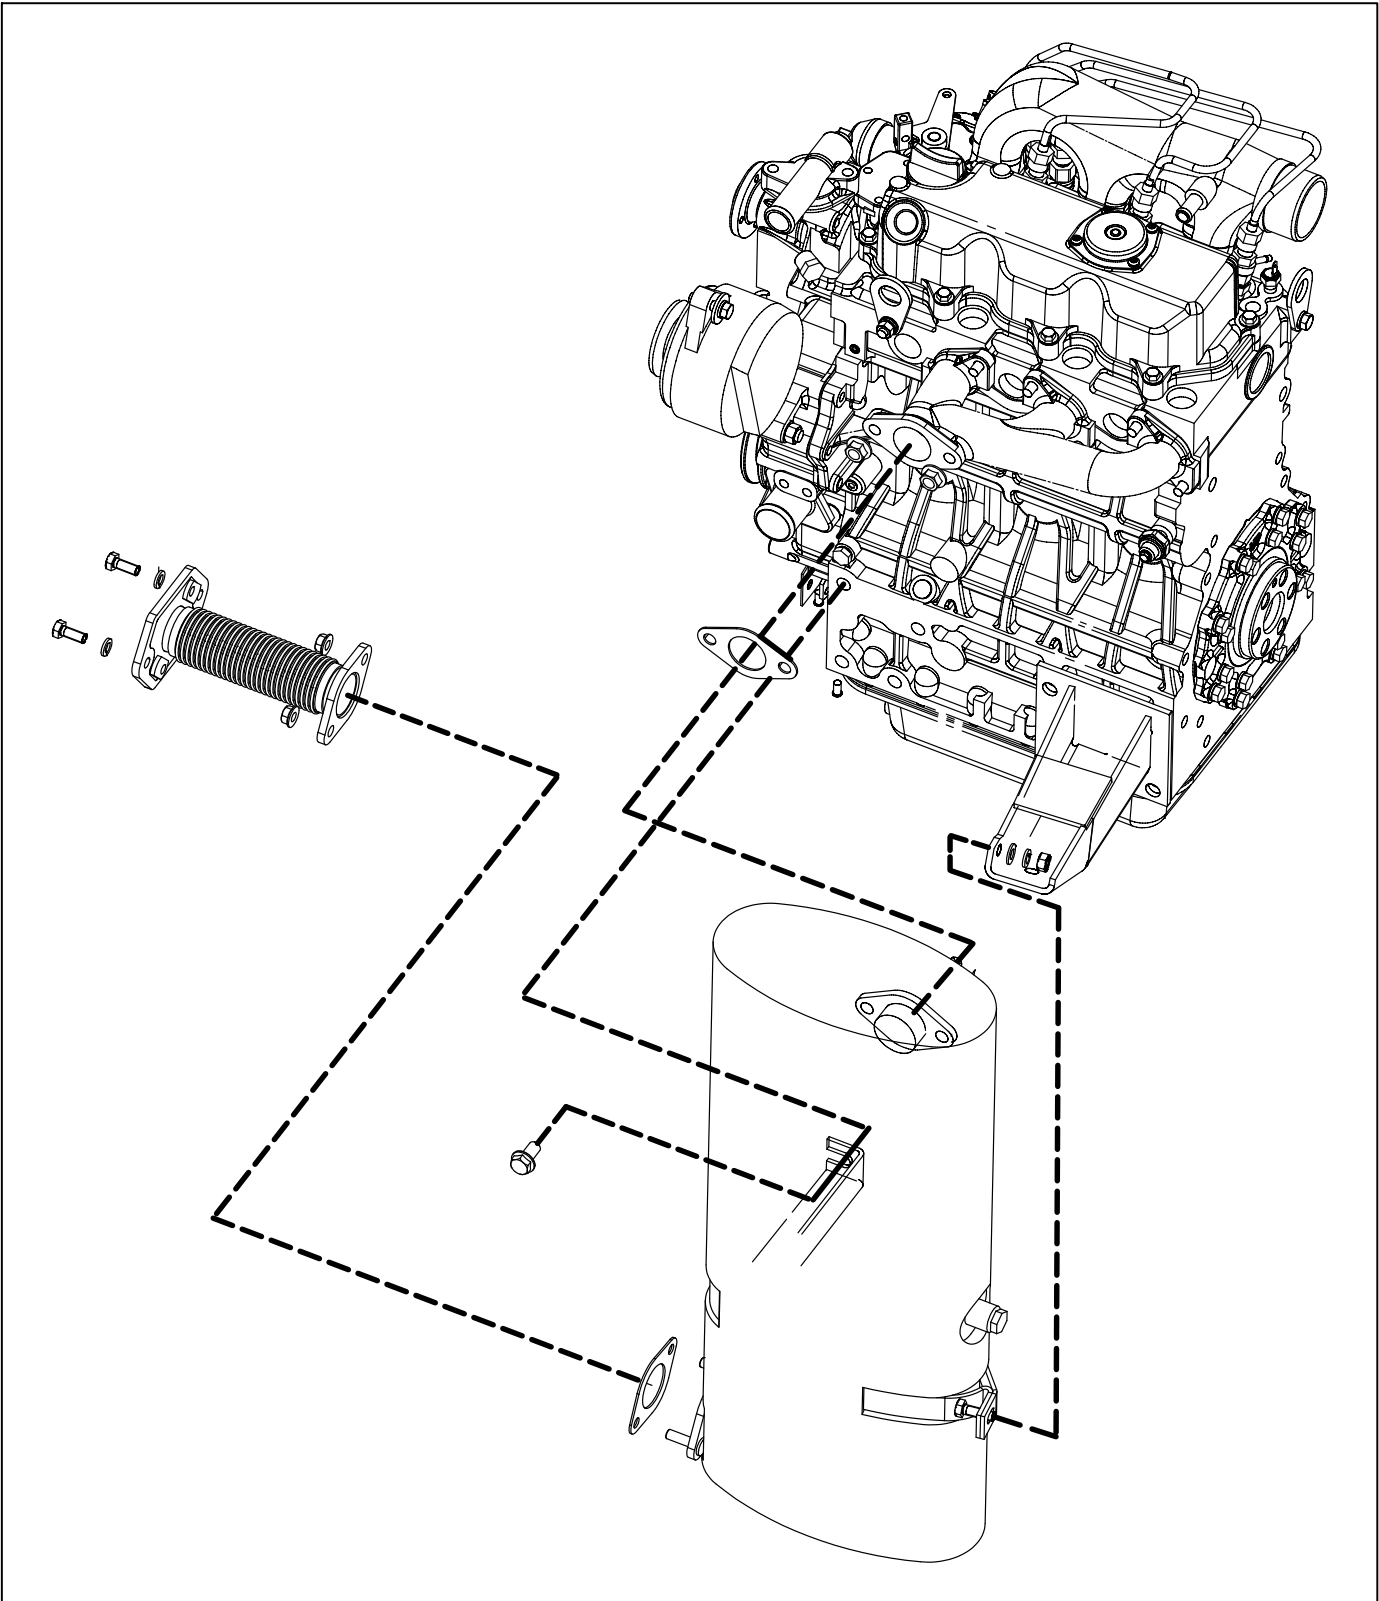
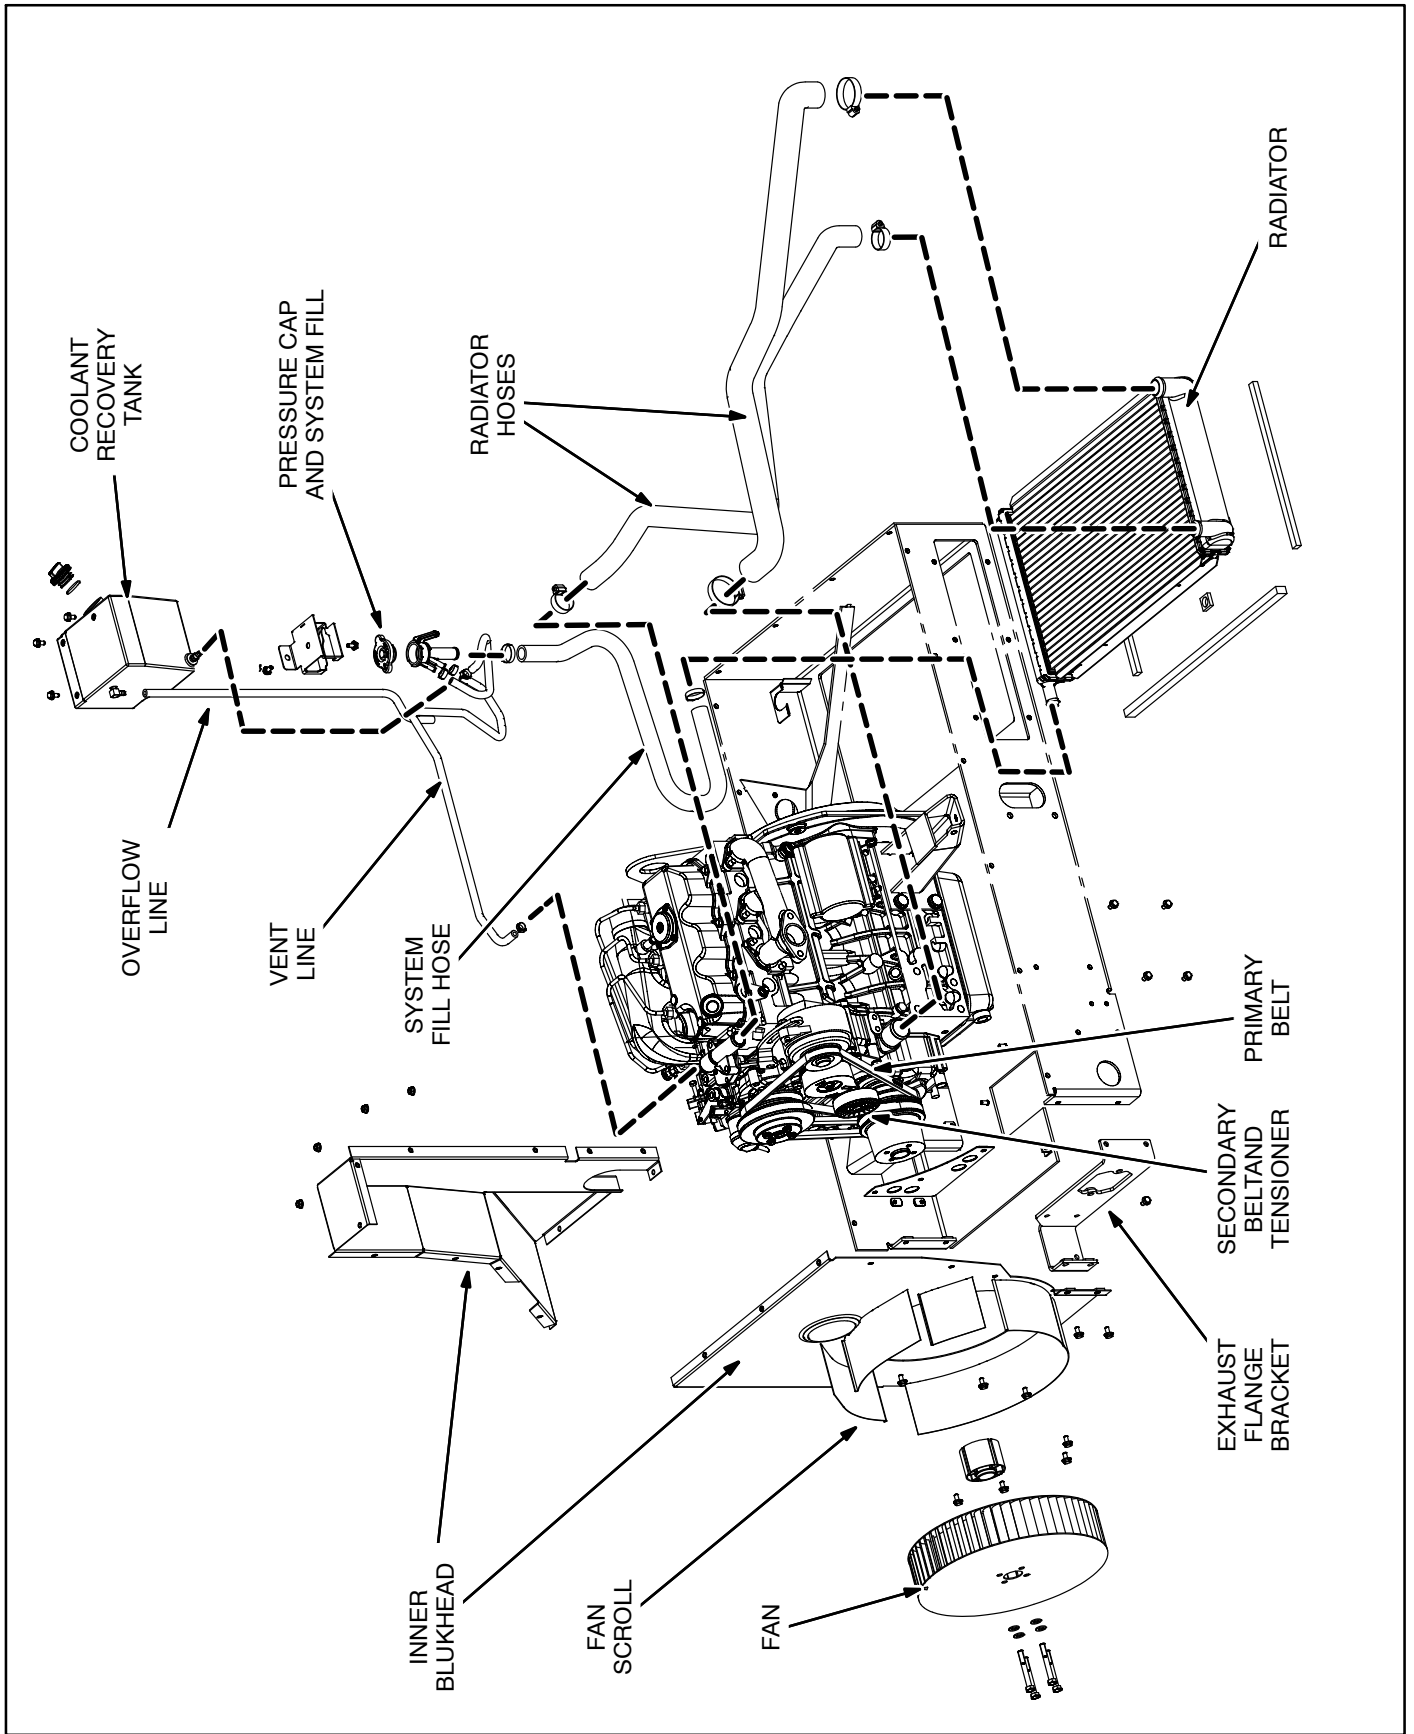
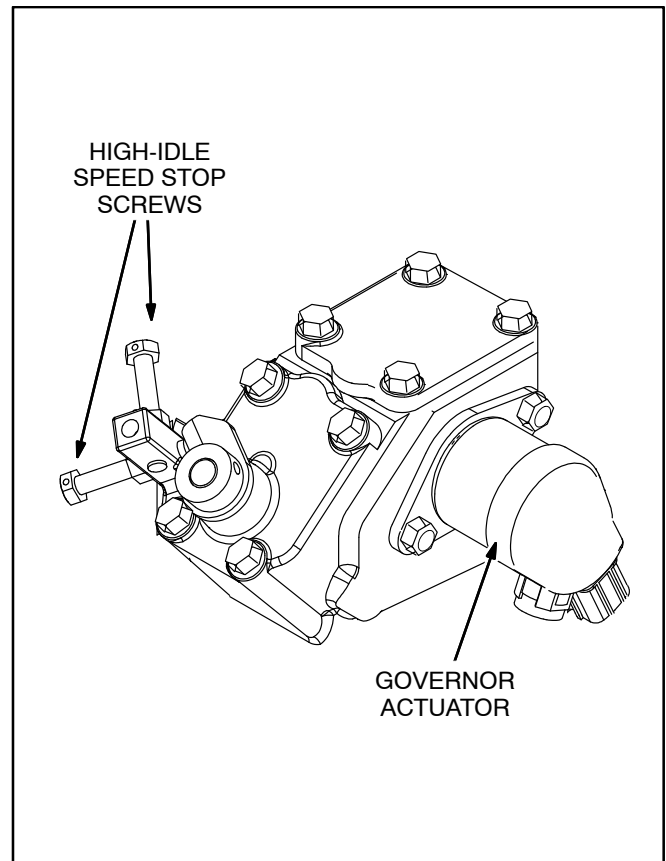

FIGURE 7-1. MUFFLER ASSEMBLY
FIGURE 8-1. ENGINE COOLING SYSTEM
FIGURE 9-2. GOVERNOR ACTUATOR AND HIGH-IDLE SPEED STOP SCREW
The muffler is bolted directly to the outlet flange of the engine exhaust manifold and a flexible, corrugated stainless steel tube is bolted to the muffler outlet flange (Figure 7-1). The flange on the other end of the flexible tube is bolted to a bracket on the base assembly (Figure 8-1).
Refer to Figure 8-1 to reassemble the cooling system components.
The governor actuator (Figure 9-2) is removable by removing the housing end panel (Figure 4-2) and the fan and inner bulkhead (Figure 8-1). Remove the actuator from the engine block (2 screws). When reassembling, make sure the O-ring seal is in place and that the push rod goes through the internal guide hole. Replace the actuator if:
3. Disconnect all loads from the generator set to protect them from overfrequency and start the generator set. Adjust the stop screws (Figure 9-2) to obtain 67.3-68.3 Hertz (2019-2049 rpm). **TO STOP THE ENGINE**, disconnect the fuel pump from the battery.